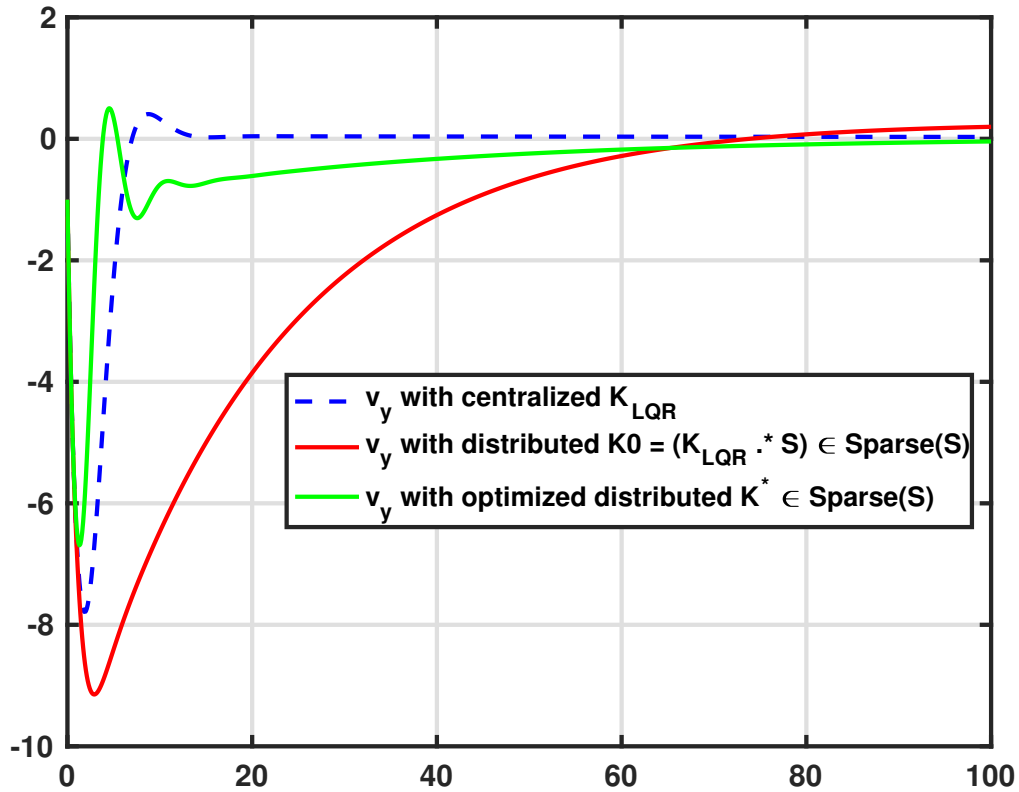

Figure 2: Controlled system using K_{LQR} , K_0 and K^*
- b) Plot the evolution of $x_1(t) = v_y(t)$ for the controlled system using K_{LQR} , K_0 and K^* , for a chosen initial condition. Verify by inspection of the plots that the performance of K^* is superior to that of K_0 (see for instance Figure 2).